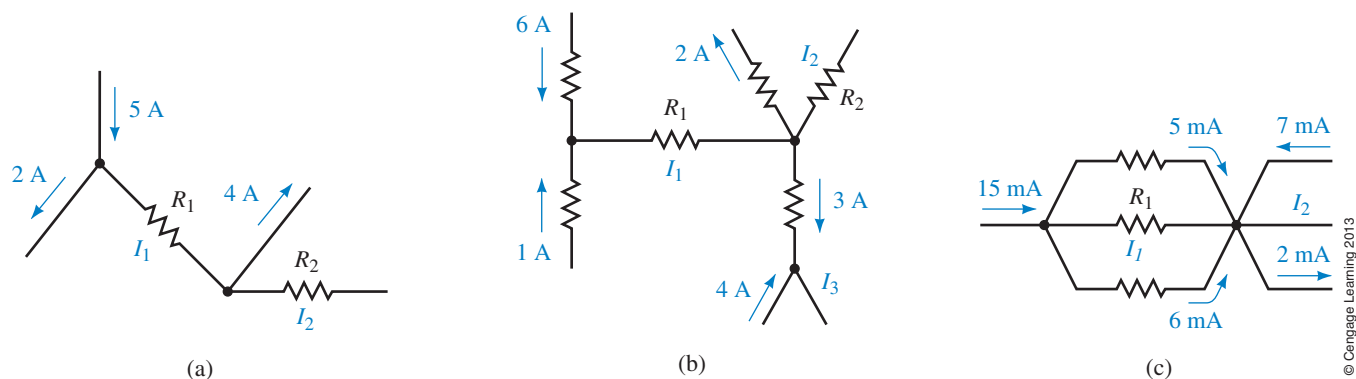

FIGURE 6–48
6. For the circuit of Figure 6–49, determine the magnitude and direction of each of the indicated currents.